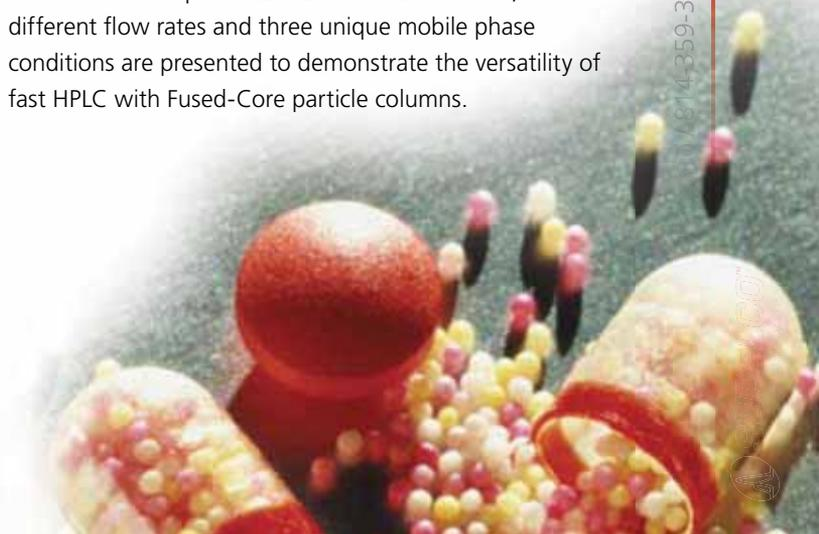

Figure 1. TCAs on Ascentis Express
Shown in Figure 1 is the separation of six tricyclic antidepressants (TCAs). The separation of these closely related compounds was performed under isocratic mobile phase conditions with mass spectrometric (MS) detection. Baseline resolution was achieved with a total separation time of 3 minutes demonstrating not only the potential speed of the Ascentis Express columns but also the resolving power. Note the MS compatible mobile phase and flow rate. Furthermore, the use of 2.1 mm I.D. columns provides a reduction in solvent consumption compared to typical flow rates for 4.6 mm I.D. or monolithic columns.